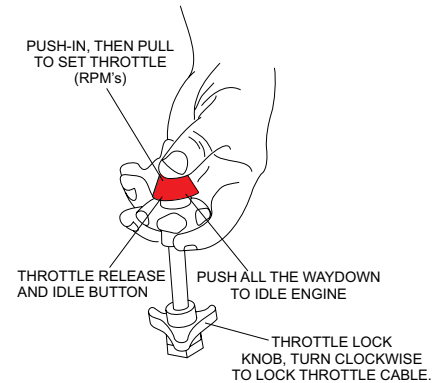

Figure 19. Throttle Control
6. PUSH the "RED" button (Figure 19) on the throttle control and pull the round black knob about halfway out. Make sure that the throttle lock knob has been disengaged.